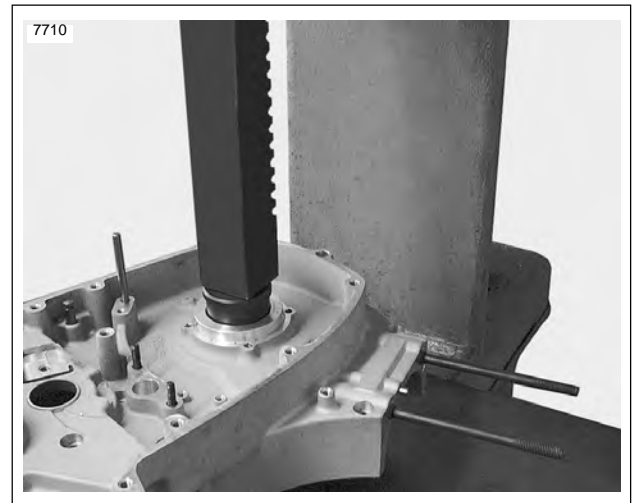

Figure 3-129. Left Outer Race Bearing Installation
See *Figure 3-129*. Use *SPROCKET SHAFT BEARING OUTER RACE INSTALLATION TOOL (Part No. HD-39458)* to install left and right outer races of sprocket shaft tapered roller bearings into left crankcase half. Always install left outer race prior to installing right outer race because the installer base is usable only when you follow this sequence of race installation.
7. See *Figure 3-129*. Insert shaft of installer plug through right outer race and into installer base. Press race into bore until firmly seated against retaining ring.
See *Figure 3-129*. Use *SPROCKET SHAFT BEARING/SEAL INSTALLATION TOOL (Part No. HD-42579)* to install sprocket shaft tapered roller bearings and seal.
8. See *Figure 3-129*. Install inner bearing.